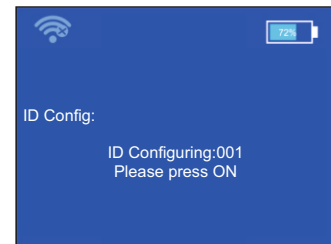

Figure 4.35
The microphone’s screen displays a prompt reading **“ID Configuring: XXX, Please press ON”**. Press the “ON / 🗣️ (Speak)” button on the respective microphone from which you want to start/assign numbering. (See Figure 4.35)
Step 1. Enter the highest MIC ID number which the microphone unit has and press the “Start” button in the system controller “ID Config” menu. When activated, the screen on the microphone unit displays a prompt reading **“ID Configuring: XXX, Please press ON”**. (See Figure 4.35)